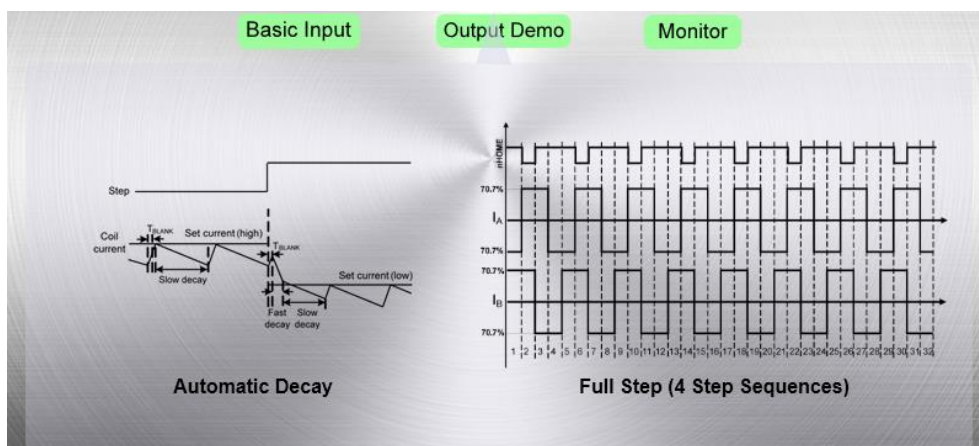

Figure 4: Output Demo Page
- Click the “Output Demo” button. Figure 4 shows the screen that should be displaced, which diagrammatically displays the winding currents for the selected decay and step modes.